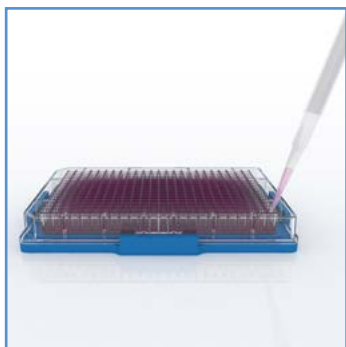

Figure 2: Use the holding drive to hold 3D cultures as you add and remove liquids
3.4. After bioprinting, remove the plate off the spheroid drive and transfer it back to the incubator for the length of the experiment. The spheroids can be cultured up to 3 weeks. If necessary, replace the media in the wells after 2-3 days of culture or as needed (4. Media exchange, Figure 2).
After culturing, standard tissue processing techniques can be performed on the 3D cultures, such as fixation, paraffin embedding for immunohistochemistry, or RNA isolation for qRT-PCR. If media exchange is necessary, use the holding drive to hold the 3D cultures down while aspirating liquids (Figure 2). The holding drive is designed that one magnet is adjacent to 4 wells, therefore holding the spheroids at the side of the well to pipette liquids out of the well without loss of the spheroids more easily.